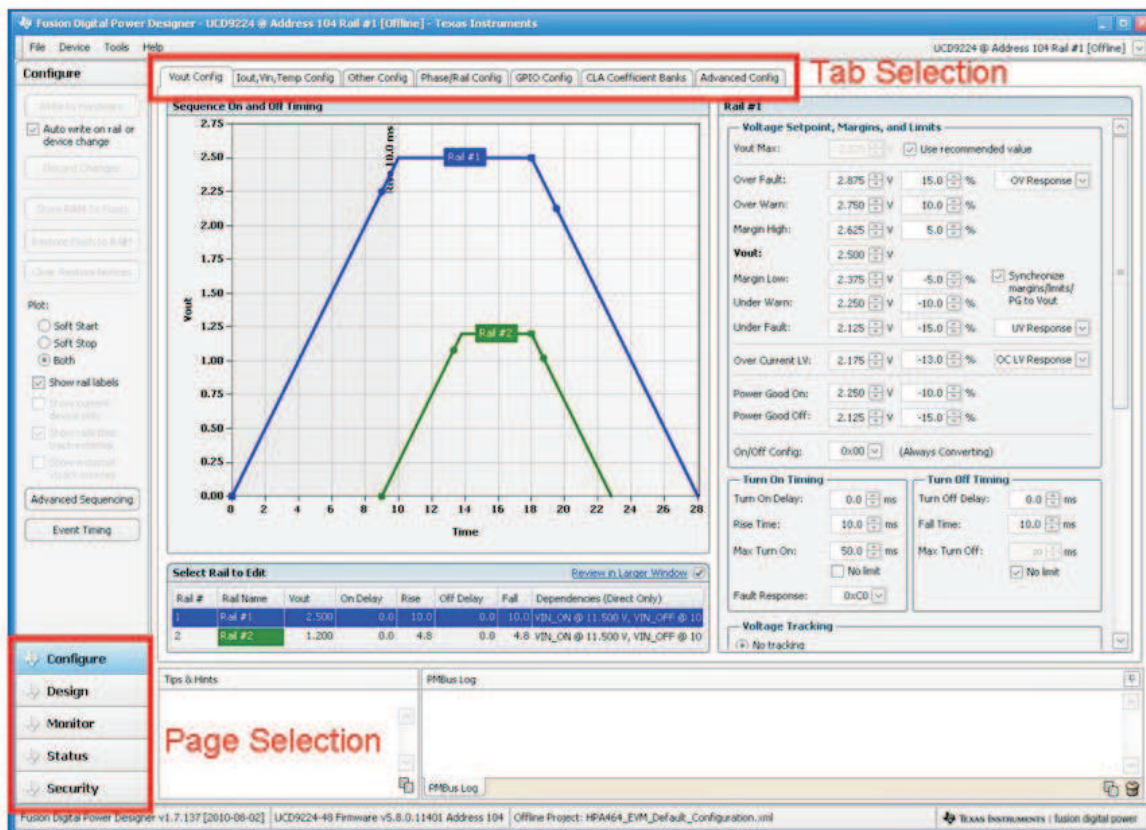

Figure 6. Default Fusion Digital Power Designer GUI Start Page
3. The GUI will scan the bus for available devices and after this discovery process is successful the GUI will open to its main Configuration Page (Figure 6). Navigation through the GUI is controlled with the Page and Tab selections which are highlighted in red.